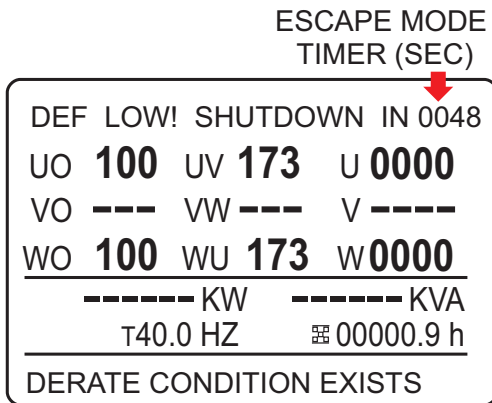

Figure 101. Escape Mode Timer
10. The **Escape Mode Timer** (Figure 101) will appear on the **main** screen. This timer displays the remaining time the unit can be operated.